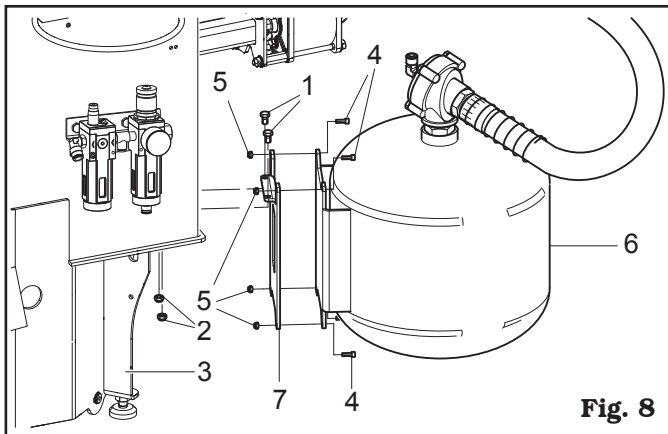

Fig. 8
- fix the tank (**Fig. 8 ref. 6**) to the support flange (**Fig. 8 ref. 7**) using the screws (**Fig. 8 ref. 4**) and nuts (**Fig. 8 ref. 5**) equipped on issue;
- fix the flange (**Fig. 8 ref. 7**) to the machine (**Fig. 8 ref. 3**) using the screws (**Fig. 8 ref. 1**) and nuts (**Fig. 8 ref. 2**) equipped on issue;